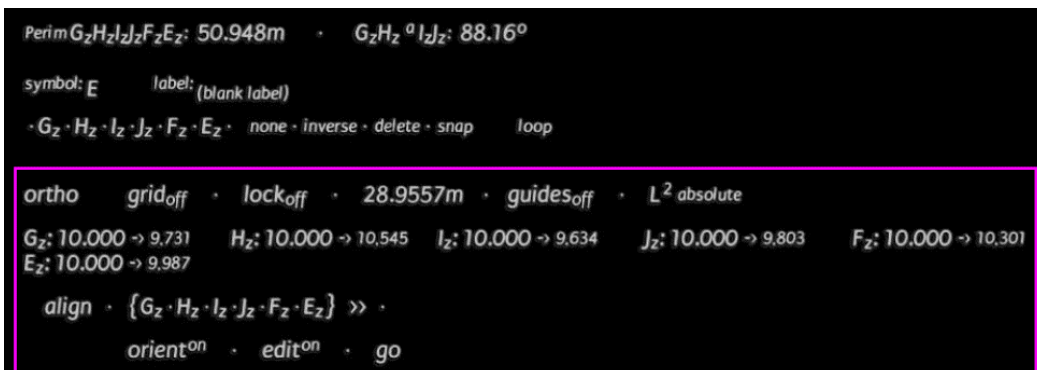

Figure 77. Example of how the Ortho menu changes once depth markers have been added prior to setting the corresponding depths.
- After markers are added to the grab set, they become assigned to the Ortho tool. The markers change from green to blue and receive default depth values of 10 m (Figure 77).